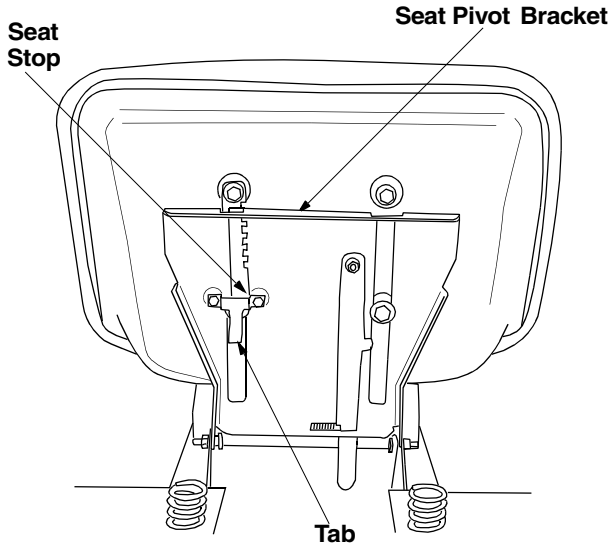

Figure 4
- Pull out tab on seat stop and hold open while sliding seat out of seat pivot bracket. See Figure 4 .